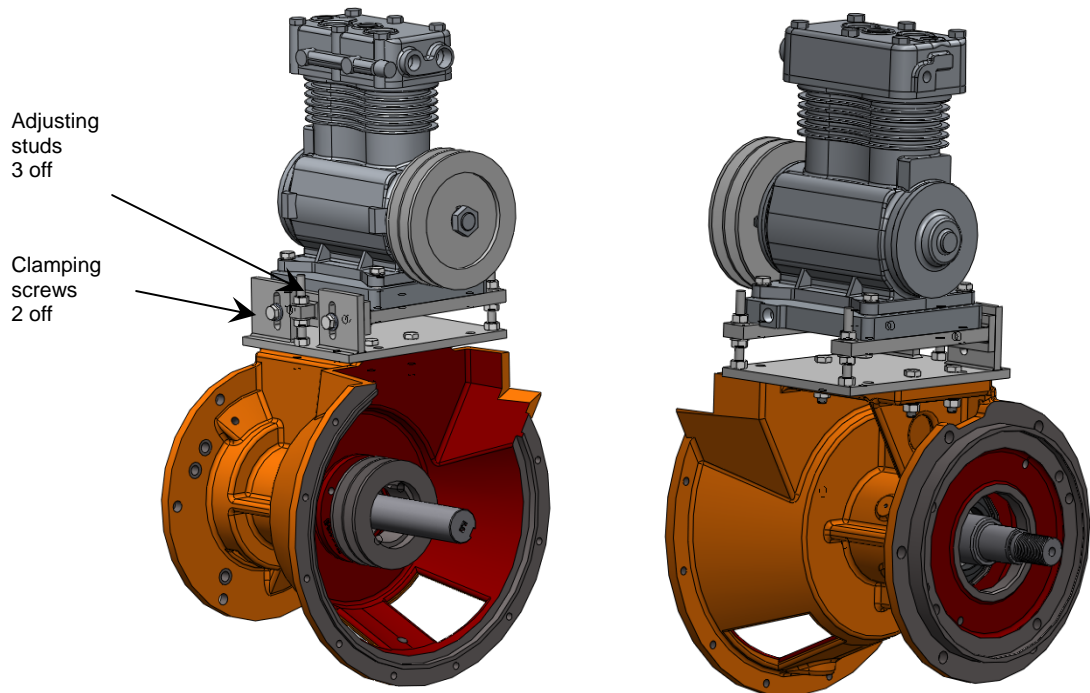

Figure 29 Link belt driven compressor (shown on a CD150 bearing bracket - guards and belt removed)
- 4) If adjustment is required, slacken the two clamping screws (see Figure 29) enough to allow the compressor carrying frame to slide on the supporting angle frame.
- 5) Slacken the 3 off adjusting stud nuts on top of the carrying frame (see Figure 29).
- 2) Slacken the two clamping screws (see Figure 29) enough to allow the compressor carrying frame to slide on the supporting angle frame.
- 3) Slacken the 3 off adjusting stud nuts on top of the carrying frame (see Figure 29).